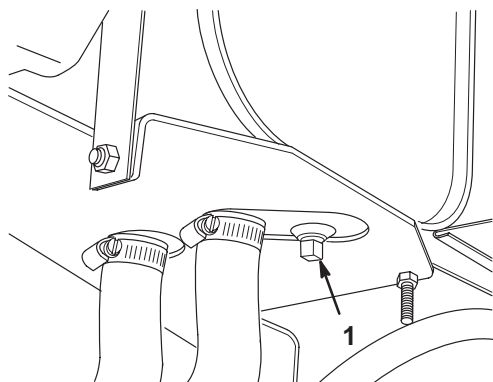

Figure 41
1. Remove the drain plug from the reservoir (Fig. 41) and let hydraulic oil flow into a drain pan. Reinstall and tighten the plug when hydraulic oil stops draining.